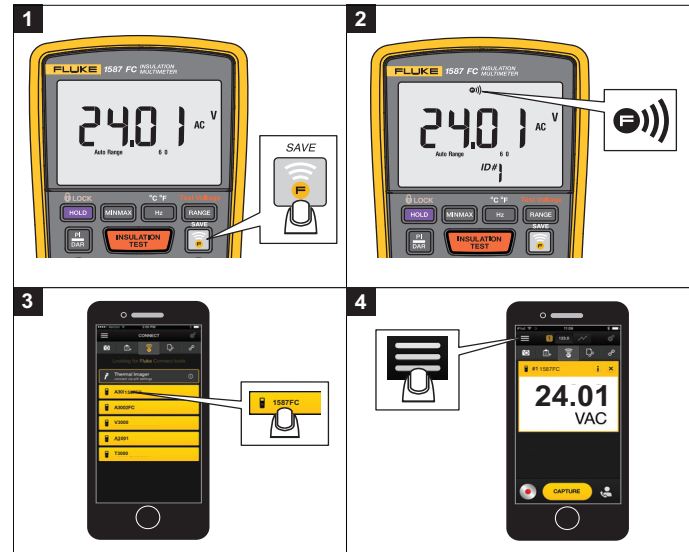

Figure 11. Fluke Connect™
2. Press  to activate the Product's radio. See Figure 11.